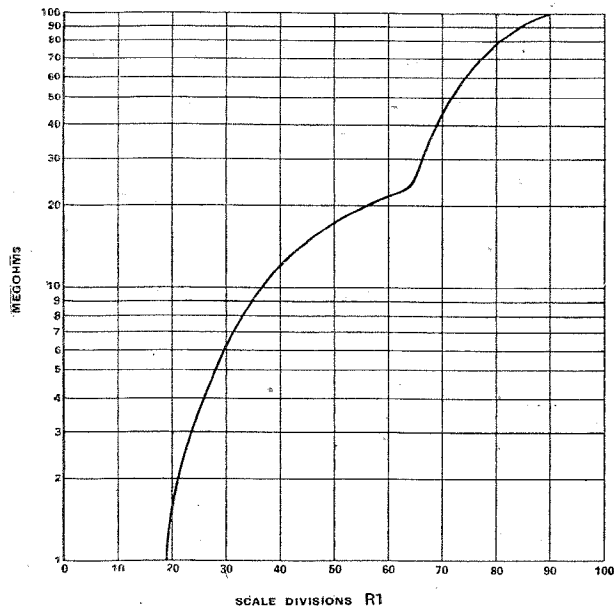

Fig. 2. Calibration curve of the author's instrument.
a shadow angle of about  $20^\circ$  should be obtained, corresponding to a grid potential of  $-8V$ . The insulation resistance to be tested is then connected across the terminals AB and the resistance  $R_1$  increased until a shadow angle of  $45^\circ$ , corresponding to a grid potential of about  $-4V$ , is obtained. The setting of the resistance is then noted and the insulation resistance obtained from the calibration curve. The calibration for the author's instrument is shown in Fig. 2. It will be noted that the "law" of the resistance used is only very approximately exponential; the resistance element is actually made up of two linear portions. The calibration will vary if different components are used, and it is best to carry out an individual calibration in each case. If the characteristic curve of the tuning indicator is available an approximate calibration may be obtained by measuring the value of the resistance  $R_1$  at various settings and by making use of equation (1). It is better, however, to connect high resistances of known value across the terminals A B and to determine the setting of  $R_1$  to give a shadow angle of  $45^\circ$ .